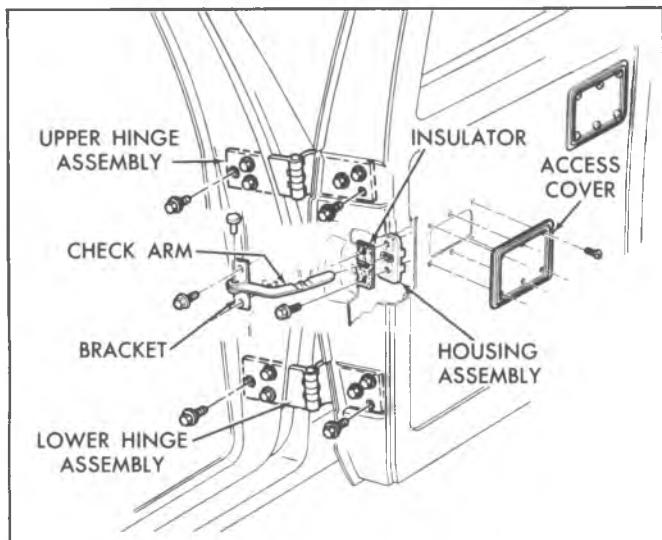

Fig. 47—Rear Door Hinges and Check Arm
Rear doors may be adjusted in the body opening by loosening hinge bolts and repositioning door, then retightening bolts. See figure 47 for hinge bolt location.
**REAR DOOR—FIG. 47****Replacement**
**CHECK ARM—FIG. 47****Replacement**